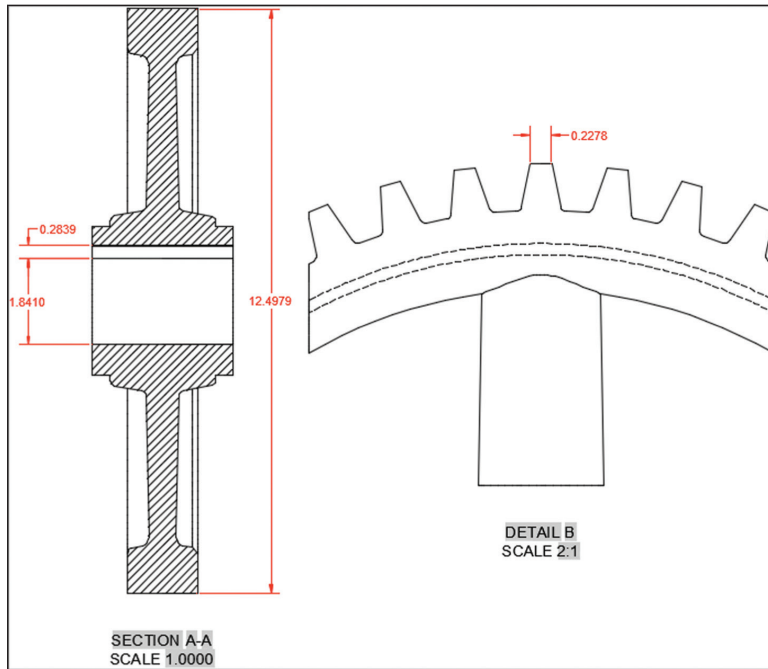

FIGURE 18.26 Associating dimensions with section and detail views
12. Toggle on object snap in the status bar. Switch to the Annotate tab on the ribbon and select the Linear tool in the Dimension panel. Dimension the features shown in Figure 18.26. These dimensions are associated with the section and detail views, which in turn are associated with the base view, which is in turn associated with the model. If you were to change the gear geometry in model space, views and dimensions would automatically update on the layout.